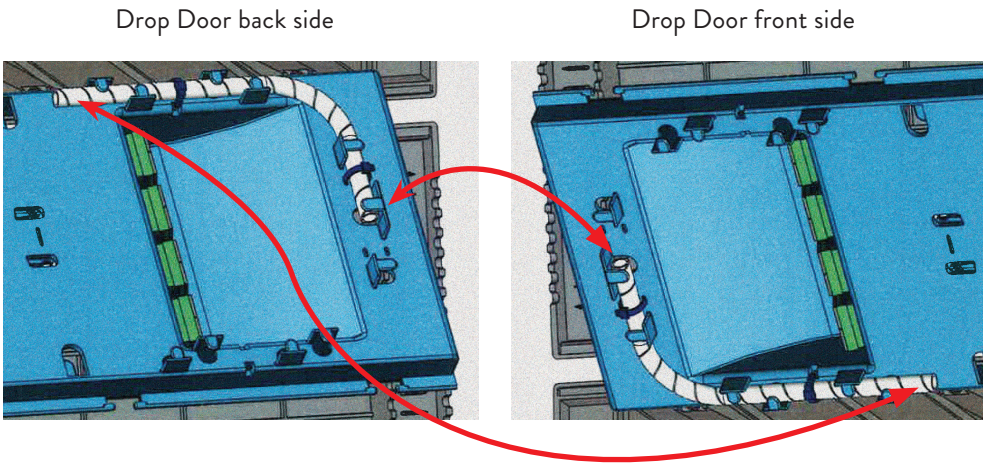

FIGURE 14
2. On the back side of the Drop Door there is a piece of spiral wrap that contains the outputs of the splitters from the splice tray. You will need to unhook the spiral wrap from the clips that are holding it in place and switch the spiral wrap to the other side of the Drop Door and hook it back into the holders on the Drop Door. [Figure 14]